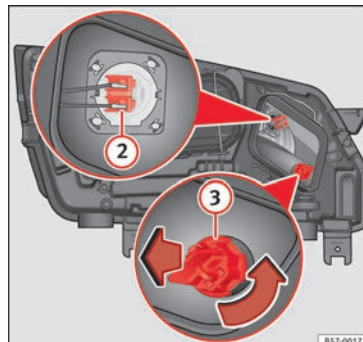

Fig. 108 In the engine compartment: main beam headlight bulb ② and turn signal bulb ③.
3. Slide connector » **Fig. 108** ② to the left or right and pull.
3. Turn the bulb holder » **Fig. 108 ③** anticlockwise and pull.